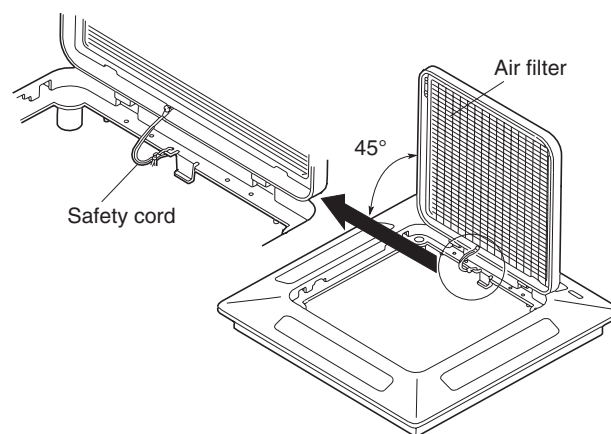

Fig. 1-25
- (c) With the air-intake grille open about 45°, remove the safety cord (hook on the grille side). (Fig. 1-25)